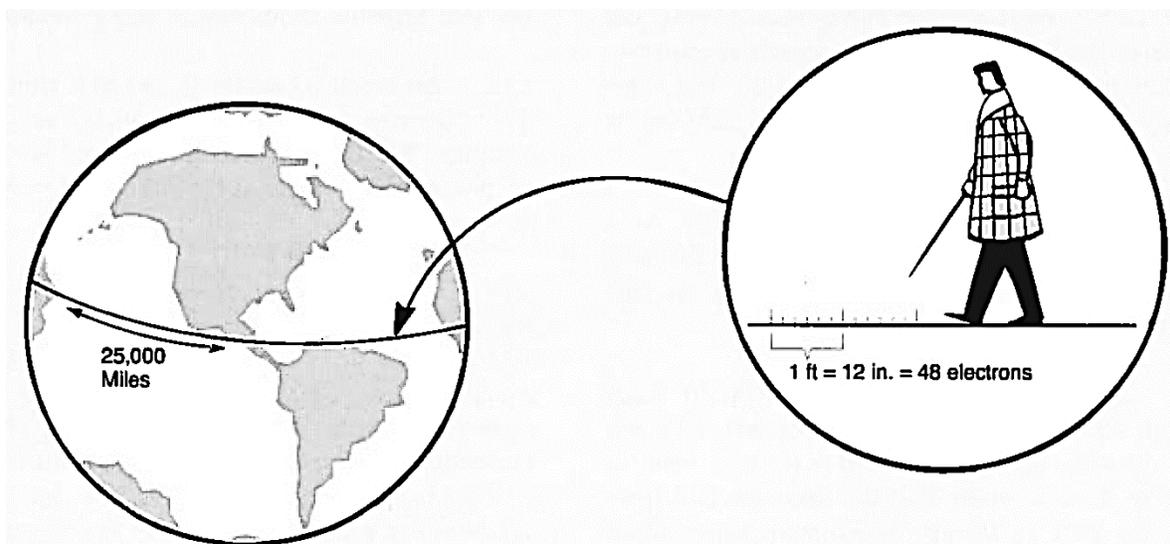

Figure 5.2: Circumference of the Earth Equals 1.5 Billion Inches
- 5-21 Looking at this current another way, suppose you divide the distance around the earth, approximately 25,000 miles, into one-inch parts, as shown in Figure 5.2. A current of one ampere, lasting for only *one billionth* of a second, would consist of four electrons for every inch in the earth's circumference.